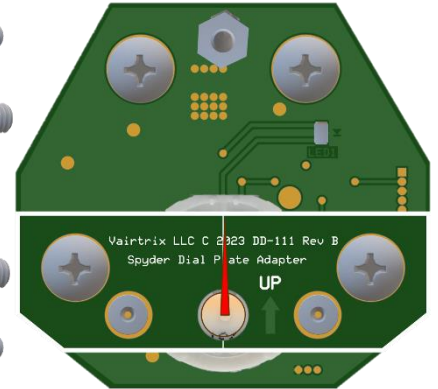

Figure 1b Front View
- Ensure Dial Plate Adapter P/N DD-111 is oriented correctly with the arrow facing up as in Figure 1b.